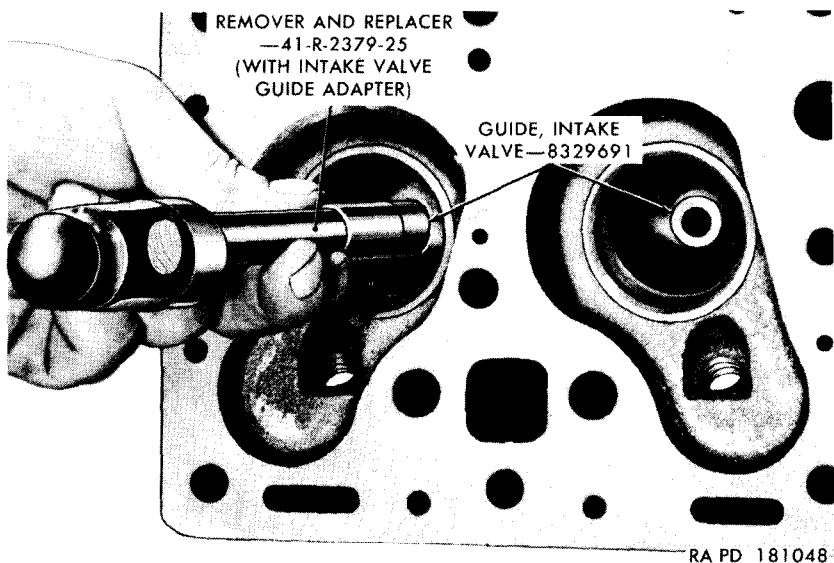

Figure 37. Installing intake valve guide using remover and replacer 41-R-2379-25.
- (c) To install the intake valve guides, start the tapered end of the guide into position from the bottom of the cylinder head. Using the remover and replacer 41-R-2379-25 (driver and intake valve guide adapter) (fig. 37) drive the valve guides into the head until the adapter seats against the cylinder head. When properly positioned, the end of the guide is just flush with the end of the valve guide bore in the cylinder head (fig. 29).